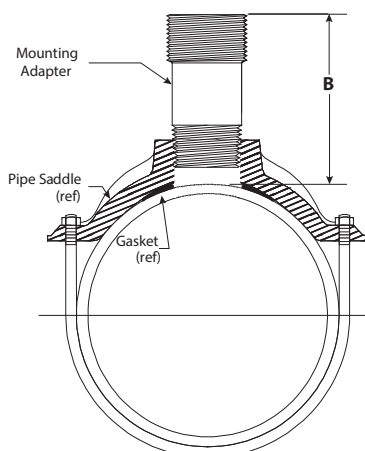

Figure 5: Dimension B
- b. Next, measure from the outside wall of the pipe to the top of the installed mounting adapter, this is dimension B in Figure 5.
- b. Next, measure from the outside wall of the pipe to the top of the installed mounting adapter, this is dimension B in *Figure 5 on page 5*.